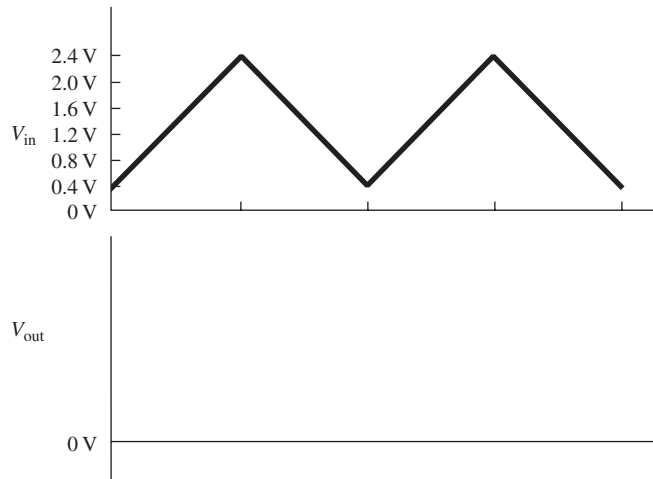

Figure P11
11. If the waveform shown in Figure P11 is fed into a 7414 Schmitt trigger inverter, sketch V_{out} and determine the duty cycle of V_{out} .